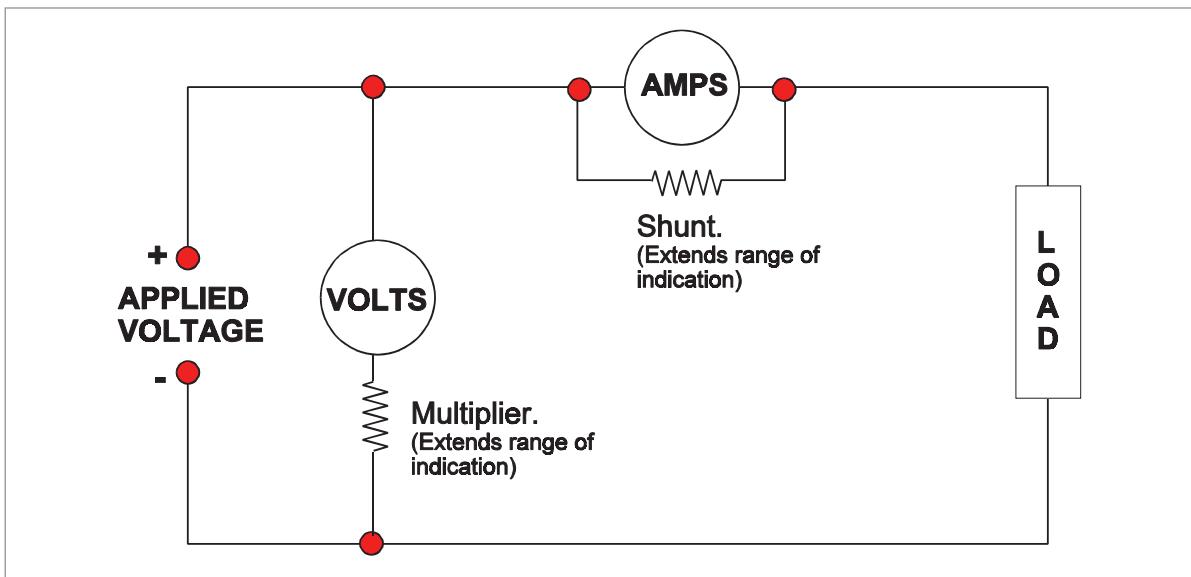

Figure 8.6 Ammeter and voltmeter connections
**Figure 8.6** shows both how current is measured with an ammeter placed in the current flow so that it measures the current flowing through it and how EMF and pd are measured with a **voltmeter** connected to the two points between which the potential difference is to be measured.